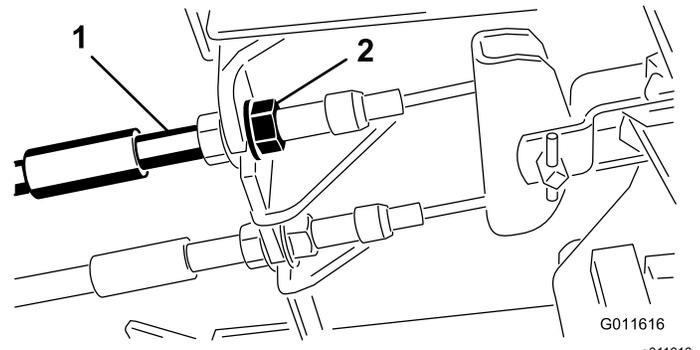

**Figure 94**
Adjust the brakes when there is more than 2.5 cm (1 inch) of free travel of the brake pedal, or when more holding force is required (Figure 94). Free travel is the distance that the brake pedal moves before you feel braking resistance.
2. Tighten the rear nut to move the cable backward until brake pedals have 0.63 to 1.27 cm (1/4 to 1/2 inch) of free travel, before the wheel locks up (Figure 94).